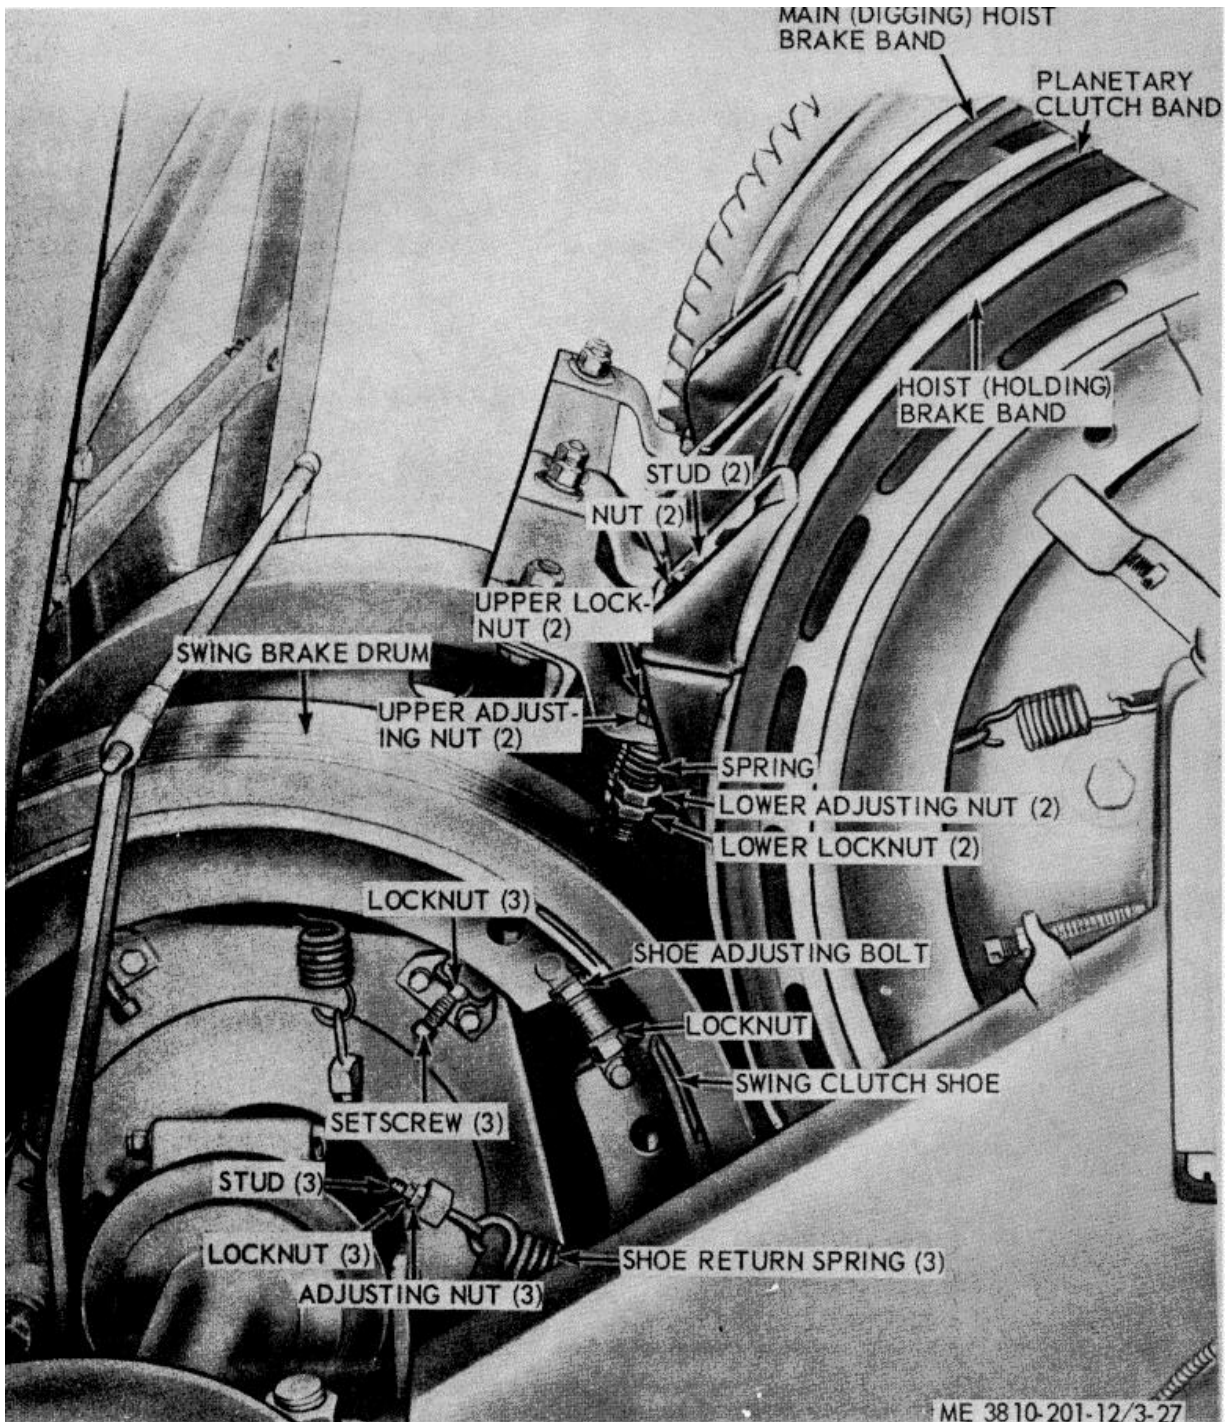

Figure 3-27. Swing clutch shoe lining wear adjustment and positioning of hoist drum clutch and brake bands.
(3) Compensation for lining wear is accomplished by loosening locknut (fig. 3-27) and turning the adjusting bolt until the clutch lining has proper clearance from clutch drum (0.012 to 0.015 inch).
b. *Installation Positioning.* Install band on two studs (fig. 3-27) on mounting bracket, and secure with two lockwashers and nuts.
c. *Positioning Prior to Adjustment.* Position band so that it does not drag on drum by backing off the upper and lower locknuts on both studs (fig. 3-27), then tightening or loosening the lower or upper adjusting nuts until there is clearance all around the drum. After band is positioned correctly, tighten the four locknuts on the two studs.